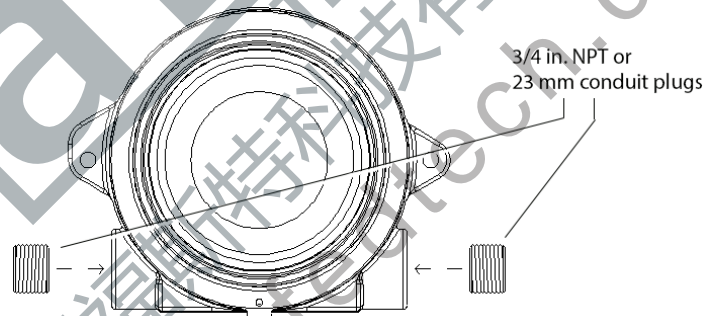

Figure 8. Detector, front view
- a. If only one conduit entry is used, install and seal the conduit plug on the unused entry ( $\frac{3}{4}$  in. NPT or 25mm, as shown in Figure 8).